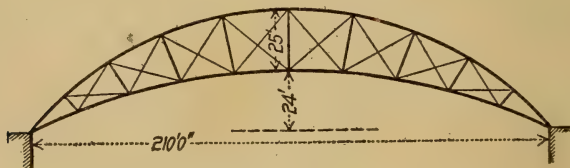

FIG. 6.
2. Determine graphically the stresses in the members of the roof truss shown in diagram (Fig. 6), the load, including the weight of the roof, to equal 45 lb. per sq. ft. Trusses to be 24 ft. c. to c.